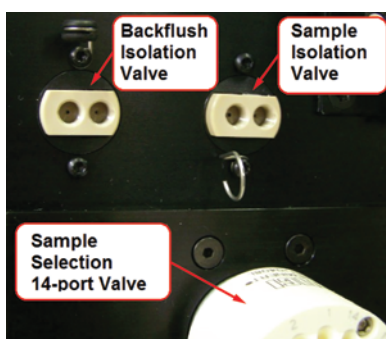

Figure 1. Revised solenoid valves
- Disconnect the tubing nuts on the clogged isolation valve and screw the adapter into the left side of the valve. Place a paper towel over the right side of the valve to capture the dH₂O as it exits the valve. **Figures 1 and 2** show the location and types of solenoid valves.